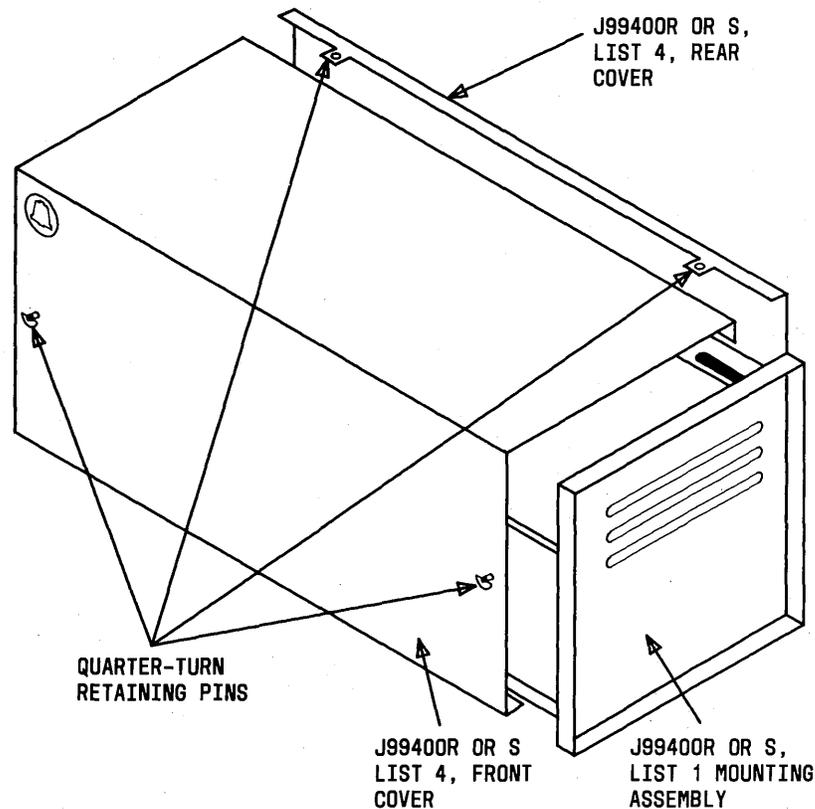

Fig. 2—J99400R and S, List 4 Cover Assembly
rear cover. The cover assembly is made of aluminum alloy and held in position by quarter-turn retainers as shown in Fig. 2. The combined front and top cover has a finish of walnut woodgrained laminated vinyl for an attractive appearance. The bottom of J99400R, List 1 mounting assembly is left open for convenient cable routing.
**3.04** The J99400S, List 4 cover assembly consists of two parts: a 1-piece front and top cover and a rear cover. The cover assembly is made of aluminum alloy and held in position by two quarter-turn retainers as shown in Fig. 2. The combined front and top cover has a finish of walnut woodgrained laminated vinyl. The bottom of the J99400S, List 1 mounting assembly is left open for convenient cable routing.